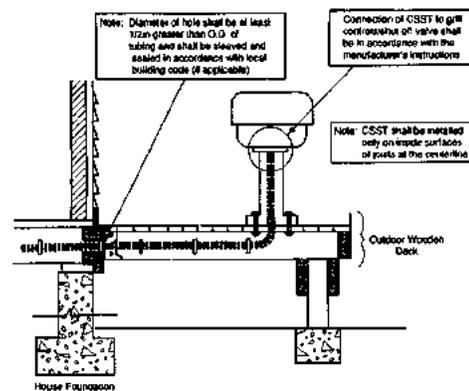

Figure 4-17
2. Permanently mounted grills located on decks shall be connected with the **TracPipe** system as shown in figure 4-17 and in accordance with this guide. The outdoor portion of the piping shall be supported against the side of any of the inside deck joists. If the elevation of the deck is below the top of the foundation, any exposed piping shall be protected using water-tight non-metallic conduit.
3. Permanently mounted lights located on decks shall be connected to the piping system the same as permanently mounted grills shown in figure 4-17 and in accordance with the manufacturer's instructions.